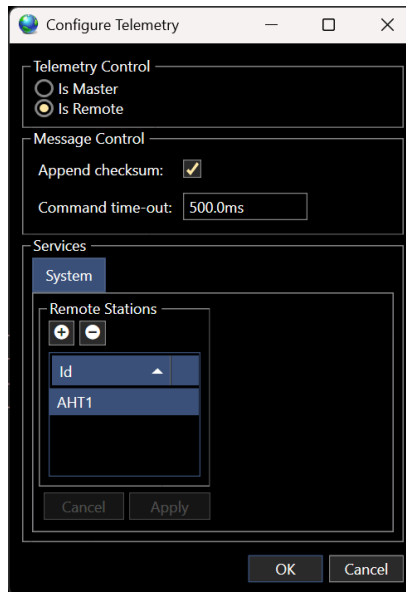

FIGURE 15 SERIAL RADIO TELEMETRY DEVICE – AHT
- b. If the communications between the Anchor Vessel and the AHTs is to be serial radio modems, add a **Serial Radio Telemetry** device and configure it for telemetry network Remote (default setting), see Figure 15